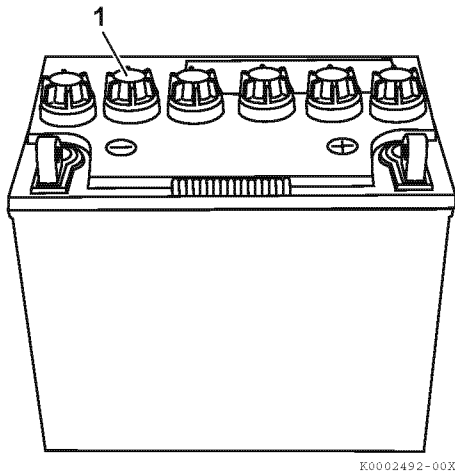

Figure 16
10. Install caps (1, **Figure 16**) onto battery. Hand-tighten caps. Do not over-tighten.